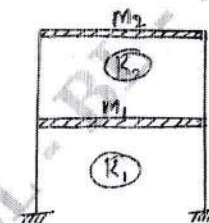

Fig.Q6
- 6 Determine the natural frequency and modes of vibration for the system shown in Fig.Q6.